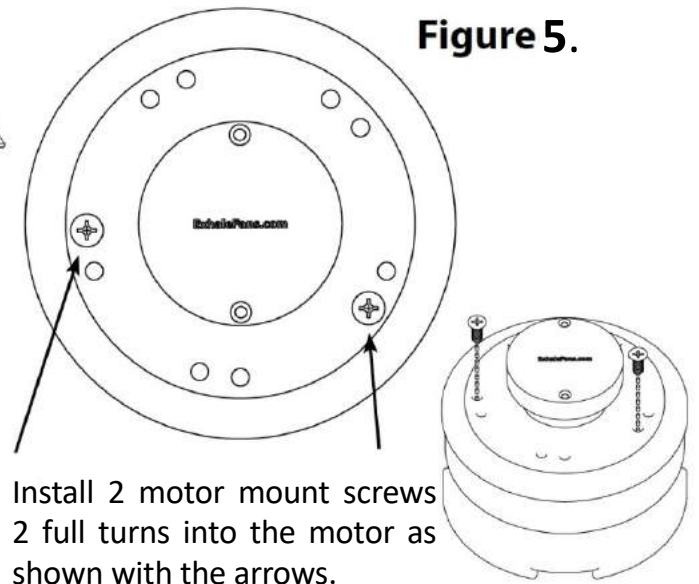

Figure 5.
- a. Using only 2 of the included ¼-20 flat head motor mount screws, install them full rotation as shown on figure 5